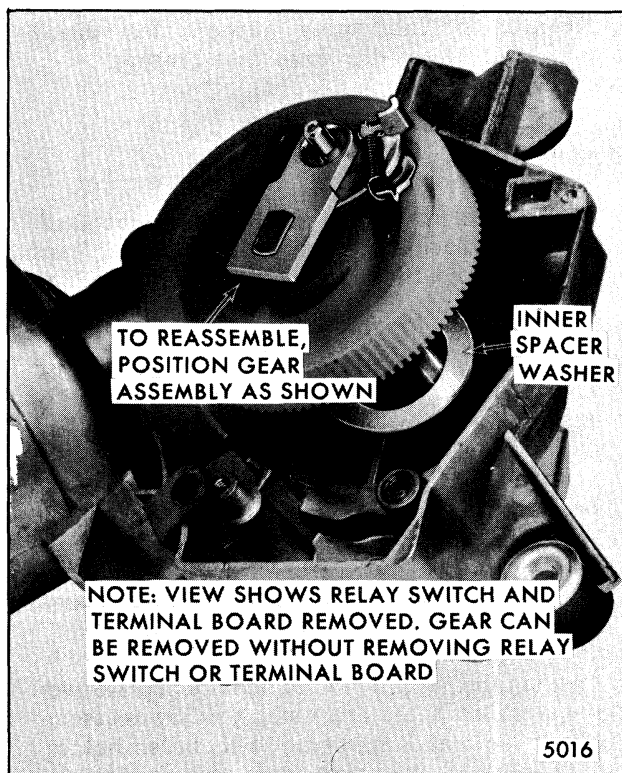

Fig. 2-91-Removing Gear
2. Slide gear assembly out of housing (Fig. 2-91).
5. Assemble inner spacer washer over the gear tube and reassemble gear mechanism in gearbox (Fig. 2-91).